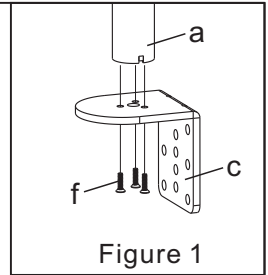

Figure 1
1. Install the “C”-Clamp Brace(c) to the Pole (a) using 3pcs M5x14 Bolts(f), and tighten using the Allen Key(o), see Figure 1.